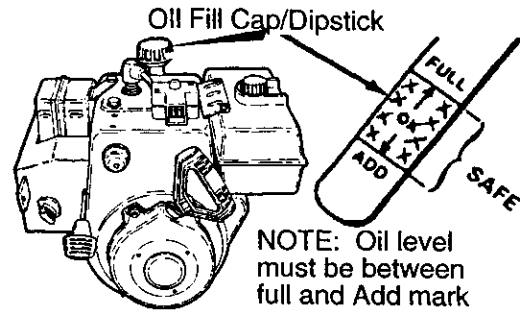

Figure 14
3. If necessary, add oil until the oil reaches the FULL mark on the oil fill cap/dipstick (see Figure 14). Do not add too much oil.